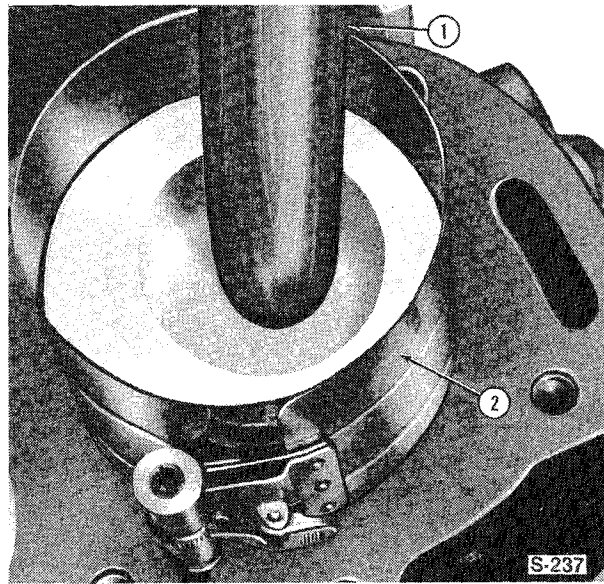
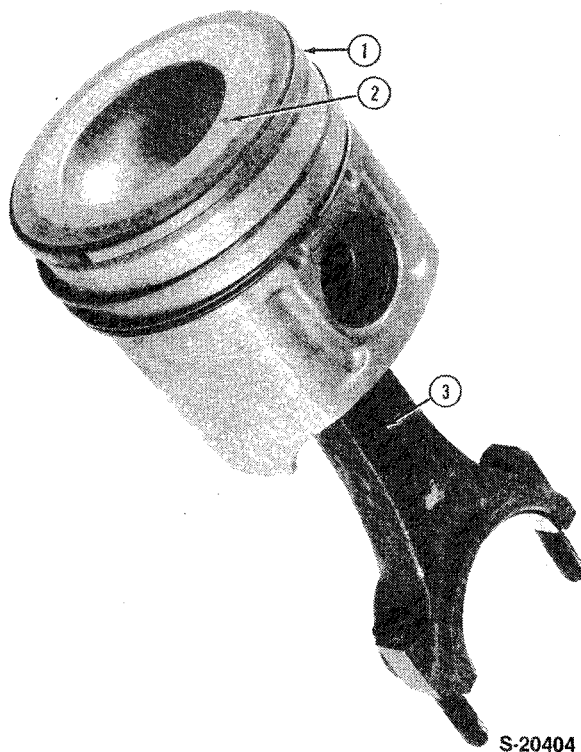

Figure 54
Figure 55
1. Lubricate all components with clean engine oil then assemble the piston to the connecting rod with the dimple or notch on top of the piston facing forward and aligned with the pin on the connecting rod, Figure 55. Install the piston pin and retainer clips (snap rings).
1. Turn the crankshaft to position No. 1 crankpin at the bottom of the stroke. Lubricate the piston, rings, cylinder bore and bearing liners with clean engine oil. Using a ring compressor, install the piston into the cylinder, Figure 54. Be sure the dimple or notch on the top of the piston is towards the front of the engine, Figure 55.
NOTE: With headland pistons, do not remove the plastic cap until after the piston is installed. Be careful not to apply any pressure to the insert bond area, Figure 55.